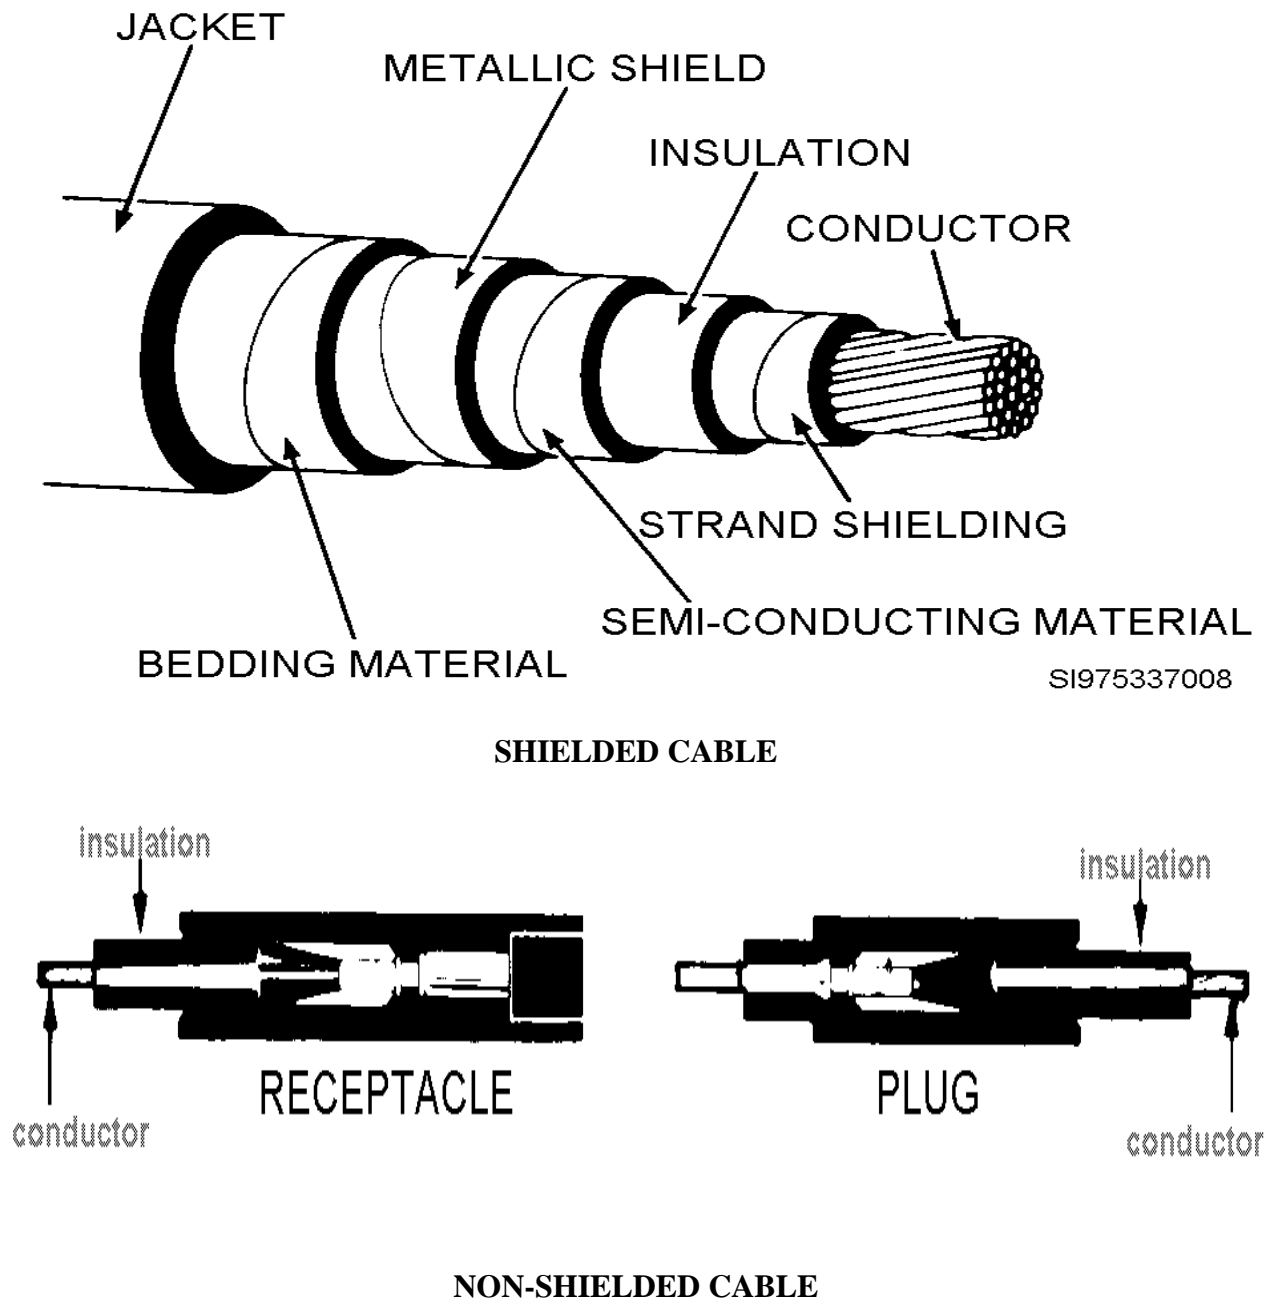

Figure 2, Shielded and Non-Shielded cable.
- Connector kits, also known as a Joy splices, are used to make a splices in cables for testing points or as an attachment point for isolation transformers. These kits contain two molded rubber bodies, two polarized pins, a wiping cloth, and an instruction sheet. Follow the instructions to remove insulation, pencil insulation, crimp pin, and sliding the molded body onto the cable. With these simple procedures, you have completed a 5,000V splice suitable for use on an airfield lighting system. Upon completion of a joy splice, apply two layers of plastic tape around the joint. These kits come in different cable insulation sizes and should be selected for the type and diameter of the cable it will be used on. Typical joy splice assembly instructions are as follows (Figure 2):